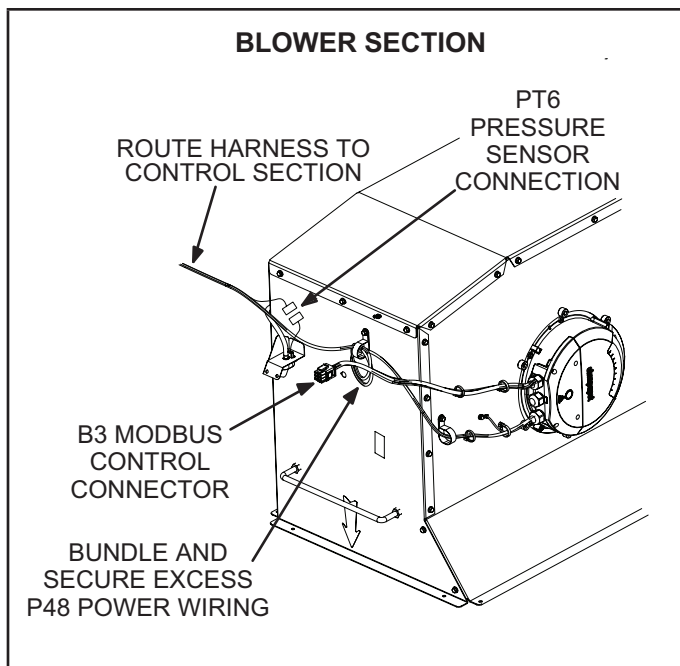

FIGURE 2
- 3 - Disconnect B3 Modbus connection and PT6 connection (LCM/LGM only) in the blower section. See FIGURE 2.
14 - Connect B3 Modbus and PT6 connections as shown in FIGURE 2.